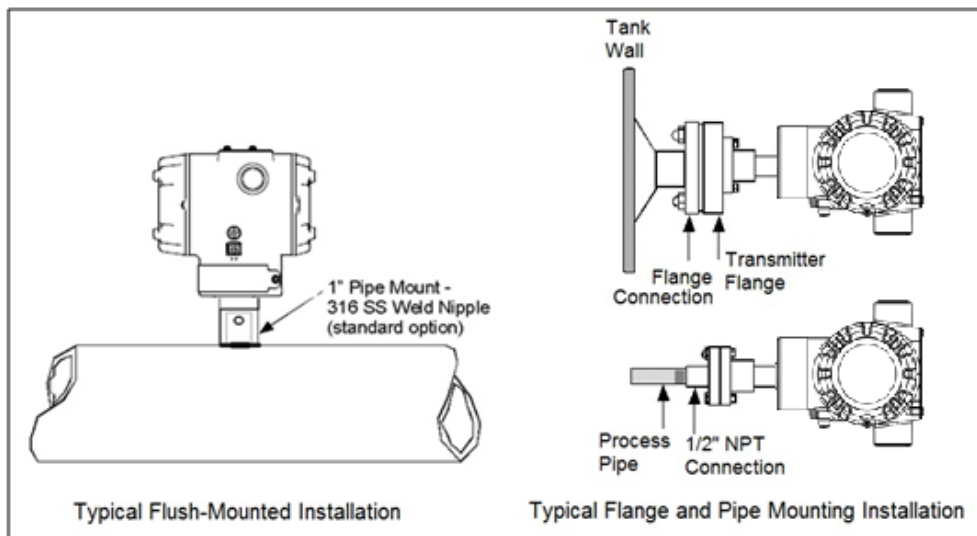

Figure 10 – Typical Flush and Flange Mounted Installations
1. Refer to Figure 10 for a representative flush-mounted Transmitter installation. Cut a hole for a one (1) inch standard pipe in the tank or pipe at the Transmitter mounting site.
1. Refer to Figure 10 for a representative flush-mounted Transmitter installation . Cut a hole for a one (1) inch standard pipe in the tank or pipe at the Transmitter mounting site.